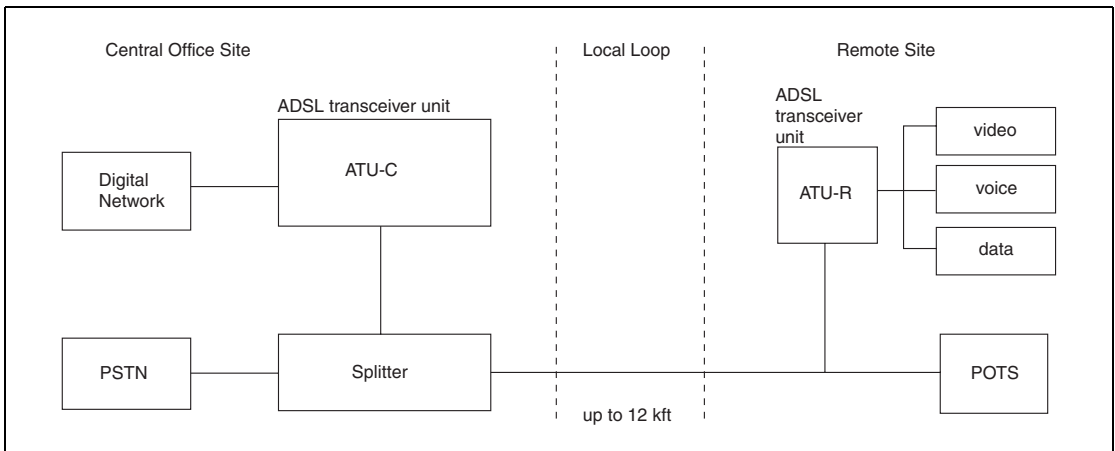

Figure 3.7 ADSL Overview
Transmission equipment should be protected against overvoltages that can exceed 2500 V and surge currents up to 500 A. In Figure 3.7 through Figure 3.17, *SIDACtor* devices were chosen because their associated peak pulse current (I_{PP}) rating is sufficient to withstand the lightning immunity tests of GR 1089 without the additional use of series line impedance. Likewise, the fuse shown in Figure 3.7 through Figure 3.17 was chosen because the amps^2time (I^2t) rating is sufficient to withstand the lightning immunity tests of GR 1089, but low enough to pass GR 1089 current limiting protector test and power cross conditions (both first and second levels).
Asymmetric Digital Subscriber Lines (ADSLs) employ transmission rates up to 6.144 Mbps from the Central Office Terminal (COT) to the Remote Terminal (RT) and up to 640 kbps from the RT to the COT at distances up to 12,000 feet. (Figure 3.7)